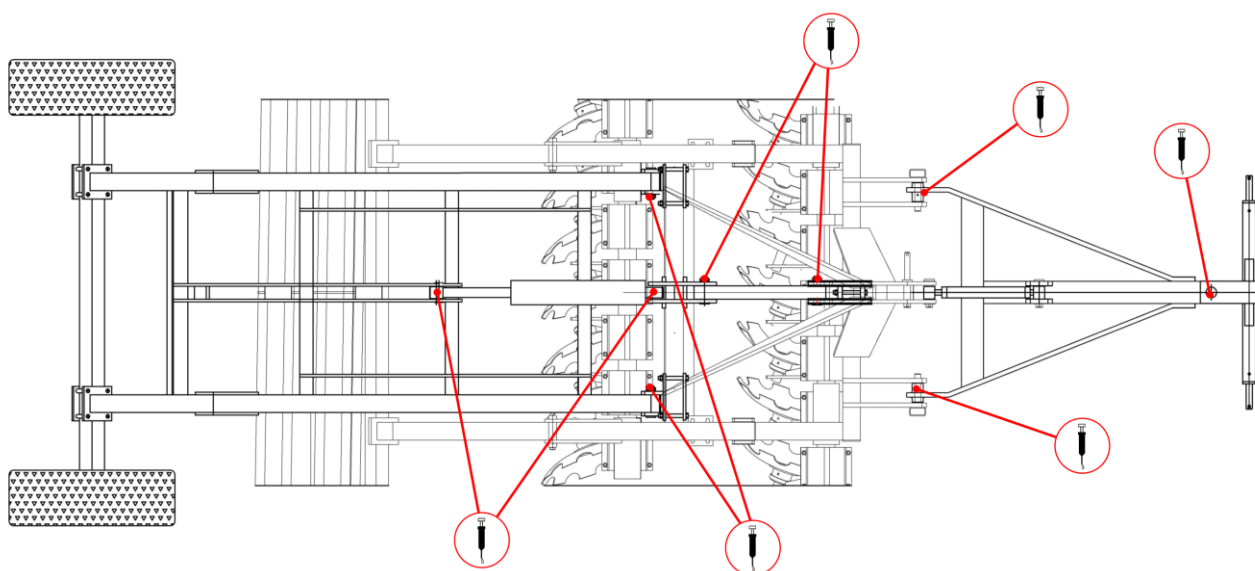

Figure 36 Lubrication points on the trolley.
Figure 36 Representation of the attachment points of the 'Skorpion' type trolley to the disc harrow frame (5 - trolley actuator, 6 - trolley arms, 7 - wheel with handle and arm, 8 - beam, 9 - turret)
- 1) Attach the trolley turret with trolley arm and actuator to the rear beam of the frame and fasten with plate and screws (fig. 36 see view B). With the above components supplied separately, bolt the turret itself to the rear beam, followed by trolley arm and actuator,
- 3) Screw the bracket beam bracket (fig. 36 view A) to the front frame beam and fasten with fixing plates and screws (fig. 36 items 1 and 2),
- 4) Fix the bracket beam (fig. 36 item 8) to the bracket and turret using the dedicated pins,
- 5) Mount the actuator with hydraulics (fig. 36 item 5) (if supplied separately) using the dedicated pins,
- 6) Fit the trolley arm with the wheel (fig. 36 item 7) using the pins,